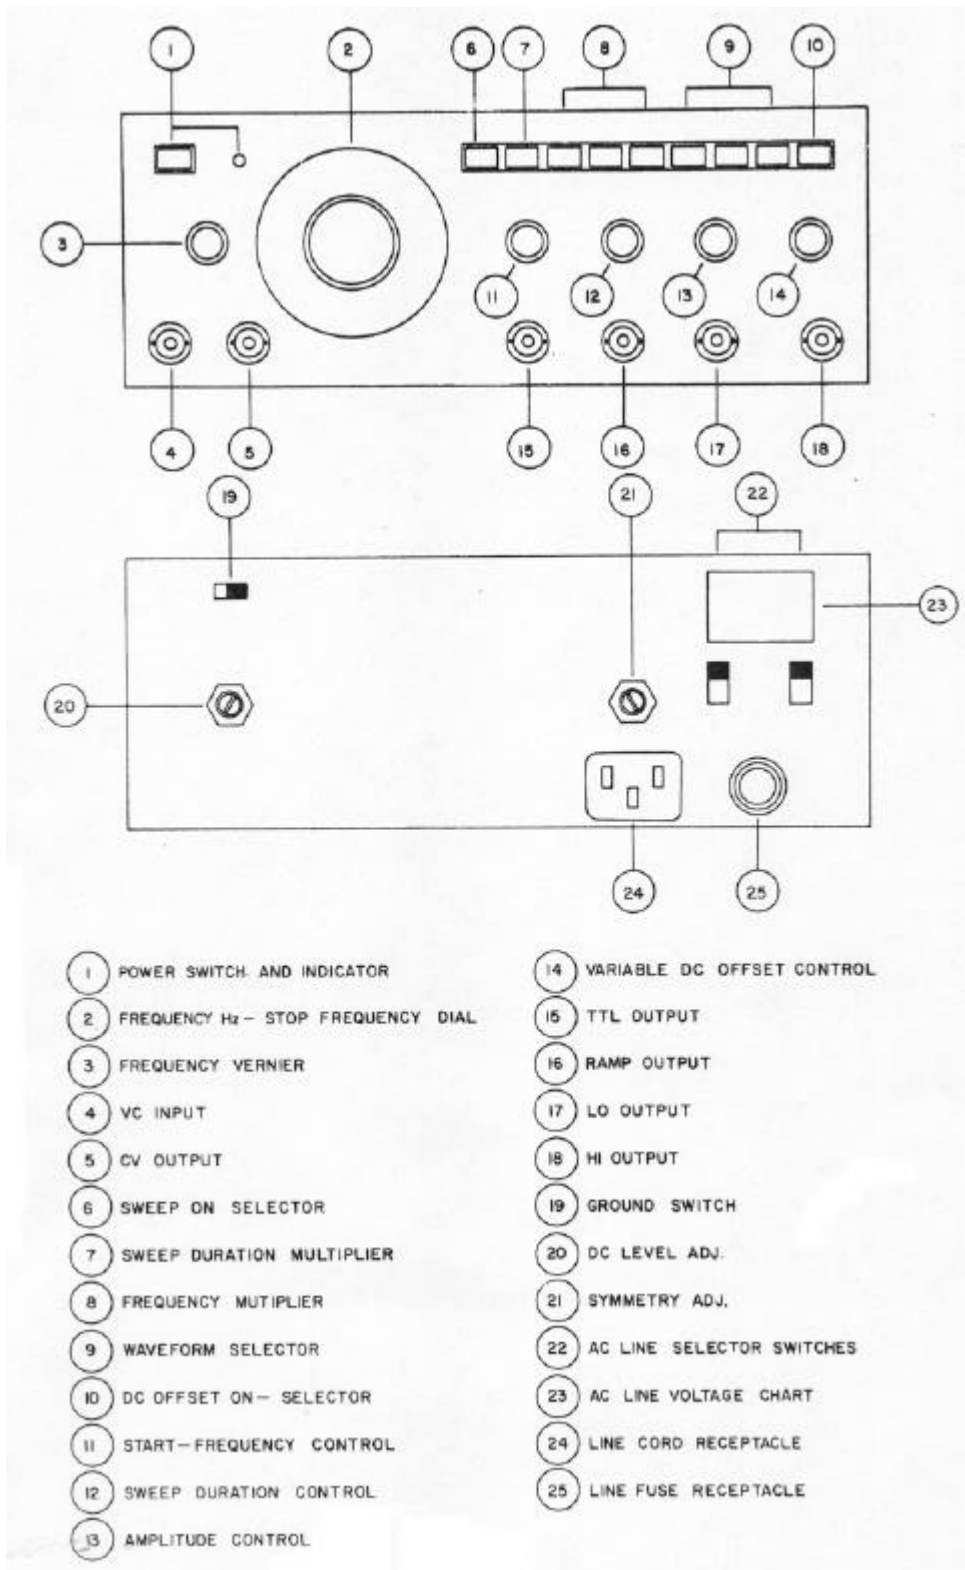

Figure 3. Operating Controls and Connectors
2.2 OPERATING CONTROLS AND CONNECTORS (see Figure 3)**2.2.1 Front Panel****2.2.1.1 Power:**